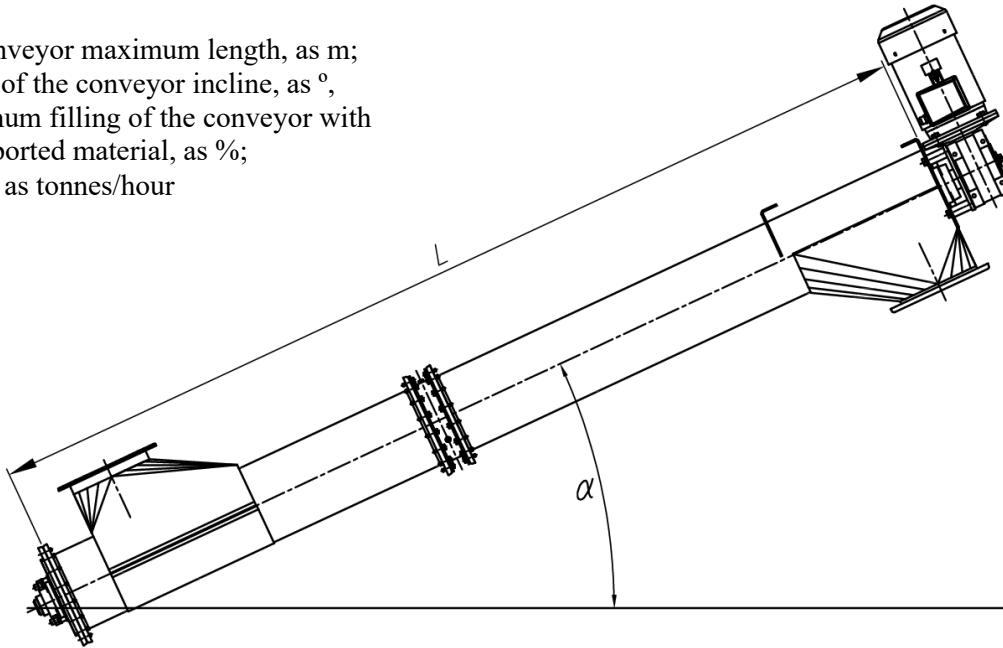

Figure 20. Specification of data for designing screw conveyors PS300.
1. The maximum conveyor length includes the length of all extensions (PS300-P...) being a part of the complete conveyor (Figure 20).